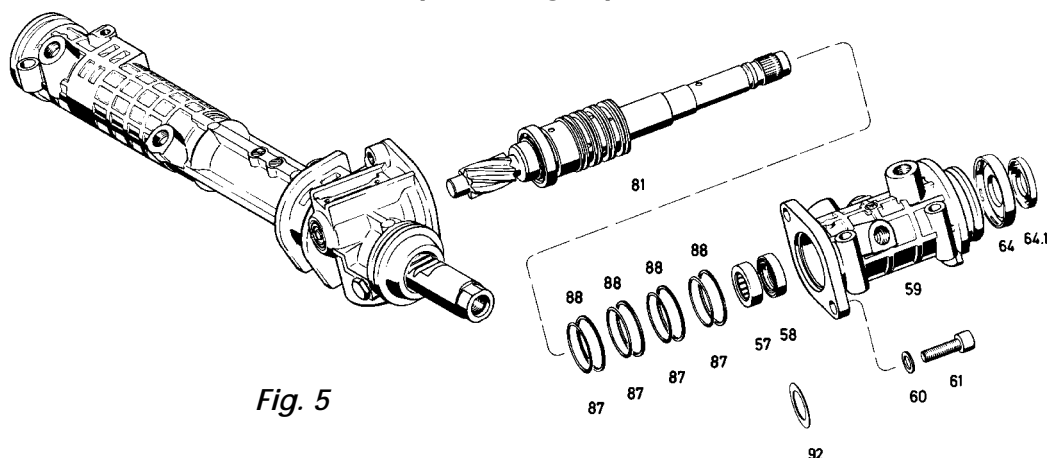

Fig. 5
Remove the protecting caps (64 and 64.1) (Fig. 5).
4.3 Versions with valve housing (59)
Screw out the cylinder screws (61) with washers (60) (*Fig. 5*).